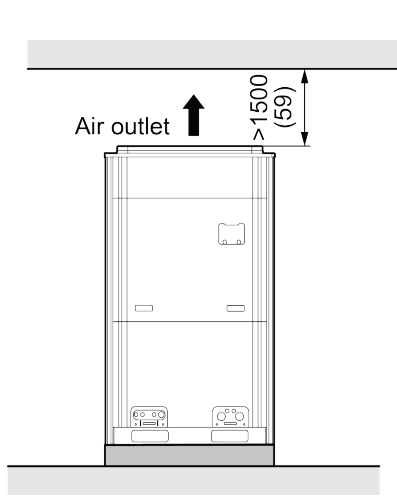

Fig.3.2.4
3.2.2 When there is wall (or similar obstruction) above the unit, keep the distance between the unit top and the wall at least 3000mm(118-1/8inch) or above. When the unit is located in a totally open space with no obstructions in four directions, keep the distance between the unit top and wall at least 1500mm(59inch) or above (See Fig.3.2.4). When space is limited within 1500mm(59inch) or the unit is not set